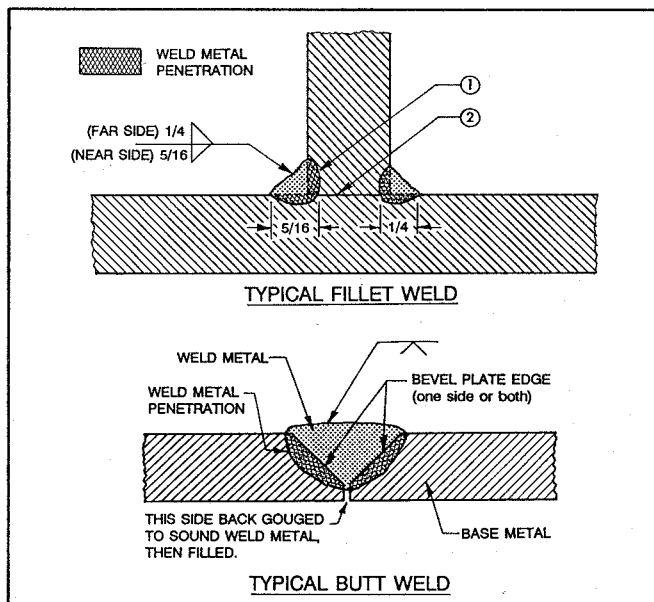

Figure 1
The weld symbol on a plan has an arrowhead pointing to the fillet weld on the left side of Figure 1, which specifies the weld size. Penetration of the weld metal into the base metal (the metal making up the item to be welded) is one of the most critical controls required for all welded joints. Penetration is denoted by the cross-hatched area ① in the
figure. Penetration is very important, as it ties both plates together and provides continuity between the base metal and the weld metal. In Figure 1, ② locates the area where no weld penetration occurs, typical of most fillet welding applications.
Typically, there are two types of butt welds, complete penetration groove welds and partial penetration groove welds. Complete joint penetration groove welds are welds where melting penetrates all the way through the complete length of the joint. Typically, the joint will be beveled on one plate end prior to welding (Fig. 1). After welding is completed on the beveled side, the plate is turned over and the joint is back-gouged with an air-arc gouger until weld metal is reached. This new groove is then ground smooth to a specified contour, and the joint is completed by welding the back-gouged side, thus completing full penetration of the joint.